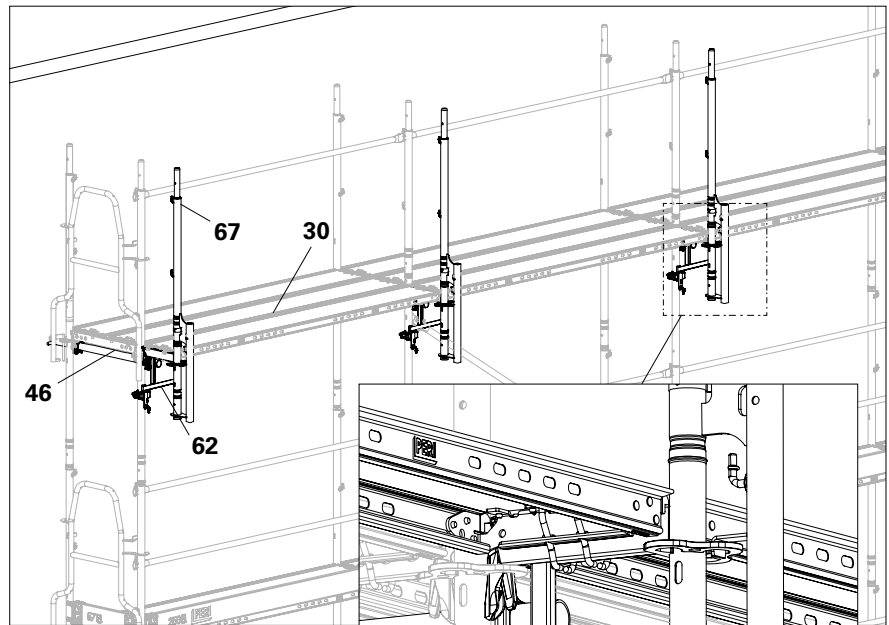
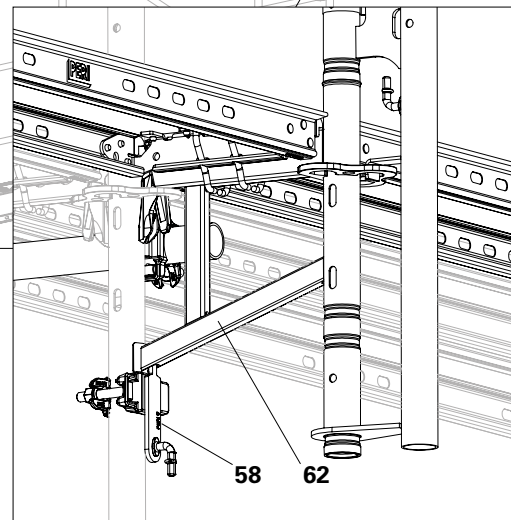

Fig. D2.05
Fig. D2.05a
1. Fit Console Bracket ECM 33 (62) together with the Protection Panel Post EPS (67), see Section "A6 System components: Console brackets" on page 40 ff.
2. Securely connect the protection panel post (67) and console bracket (62) using a locking pin (19).
3. Secure every console bracket against lifting using a Guardrail Coupling EPR (58). (Fig. D2.05a)
4. Attach Steel Decks EDS (30).
- Anchor each frame column to the inner and outer leg of the vertical frames with a wall tie (46).
- See Section Tie pattern. (Fig. D2.05)